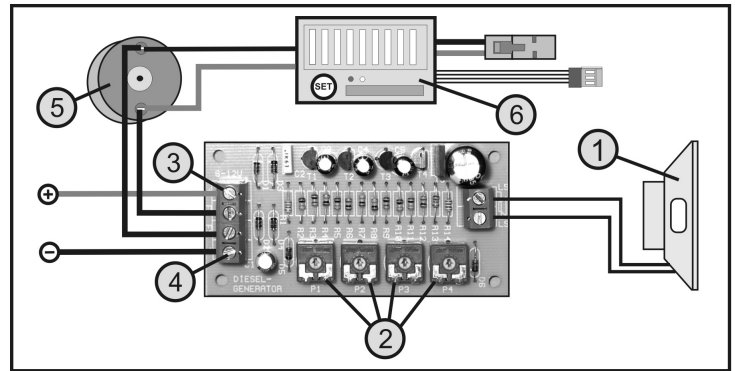

Figure 1
- Connect a miniature loudspeaker to the 2-pin terminal „LS“ (see Figure 1, position 1). The loudspeaker must have an impedance of 4 - 8 ohms.
- Move the slider of the controllers P1 - P4 into the middle position using a suitable screwdriver (see Figure 1, position 2). Use an adjustable plastic screwdriver to avoid short-circuits.
- Connect the power supply (6 - 12 V/DC) to the terminals „+“ (see Figure 1, position 3) and „-“ (see Figure 1, position 4) observing the correct polarity.
- If you want the electronic driving sound to be dependent on the driving speed, both terminals „FS“ must be connected to the driving motor in parallel (see Figure 1, position 5). It is not necessary to observe a certain polarity of the motor connection.
A drive motor can only be connected, if the motor is a direct current motor (collector motor with 2 connection cables) with an appropriate cruise control (see Figure 1, position 6).